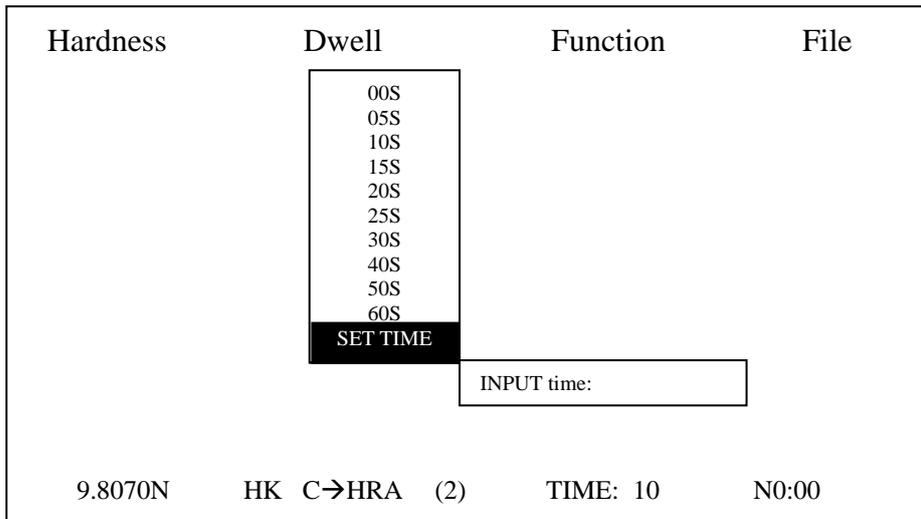
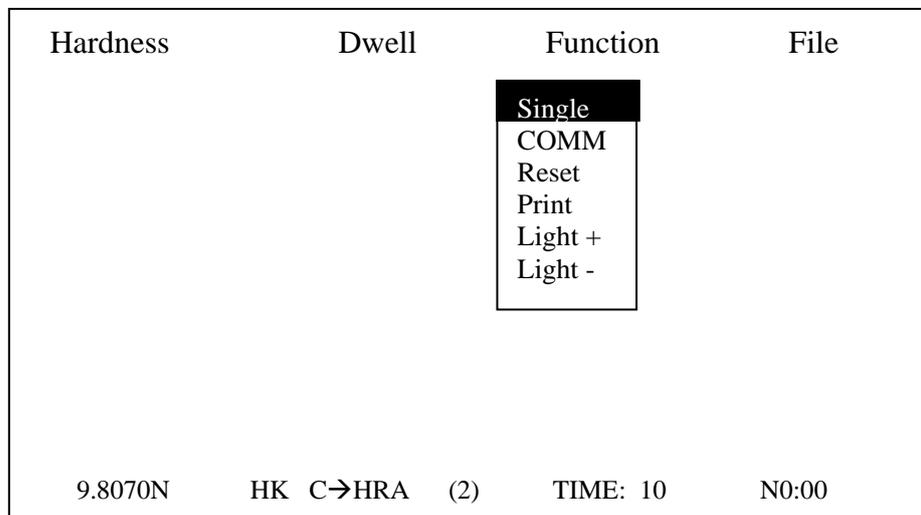

Figure 8
Figure 9
As shown in Figure 8, the pressure holding time can be selected from 10 choices from 0 second to 60 seconds. Toggle through the required holding time and confirm by ENTER. If the required time is not available in the set range, select SET TIME command and a dialogue box appears on the screen. You can input any time from 0 to 99 seconds and confirm. Your selection or input will then be displayed on the status bar.
Use direction keys to select Single and confirm by ENTER key. Screen as Figure 8 will change into single machine operation screen as shown in Figure 9.
- 4.4 Press → key and the sub-menu under DWELL will pop out, which is for selecting pressure holding time. There are 10 options from 00S to 60S and you can make your selection by highlighting the desired time and confirming with ENTER. If you need to set the time in the range of 0~99S, use direction keys to highlight SETTIME and confirm by ENTER. Then an "INPUT time" prompt will appear on the screen and you may set the time with num keys. (Note: Two digits are required in time input, e.g. 03 for 3S) Confirm your input by ENTER key and the set time will appear on the status bar (as shown Figure 8).